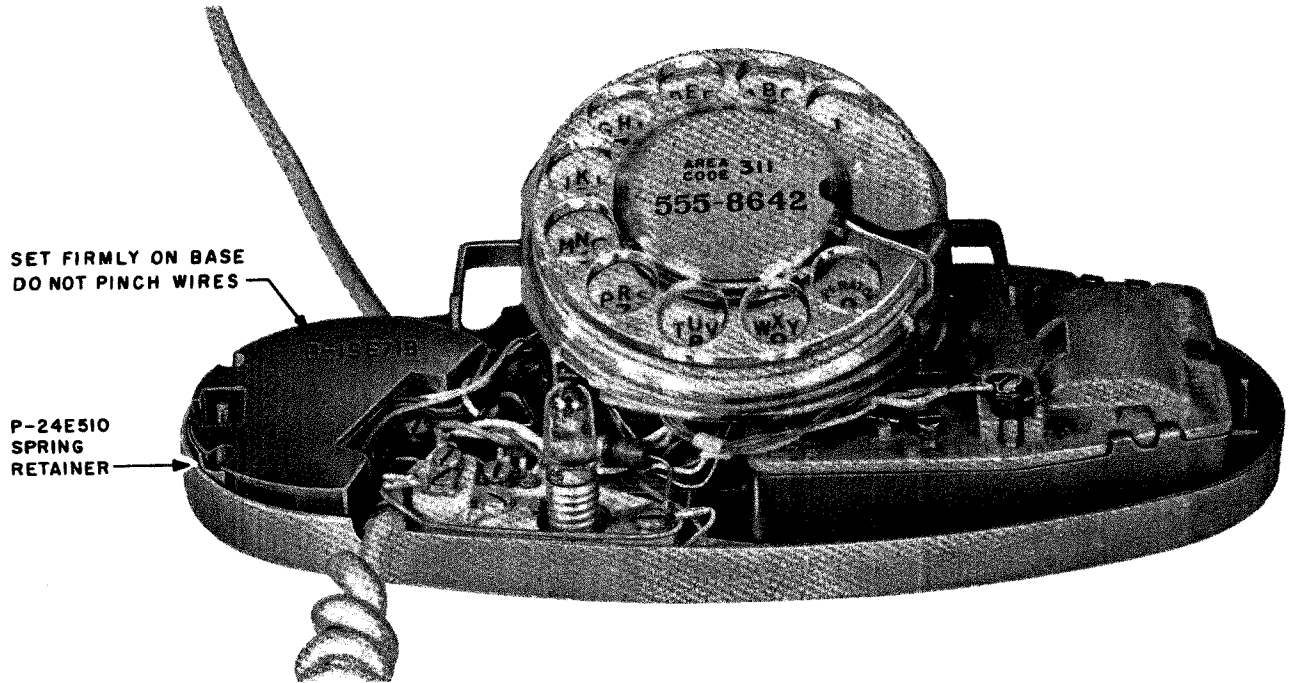

Fig. 10 – P-15E719 Weight Mounted in 701B Telephone Set
*Make sure that no wires are caught between the weight and base of set. Insert retaining spring as shown in Fig. 10.*
6. Place the tube in space below dial with dome of tube toward night-light socket and base of plastic tube bracket against dial support bracket. (See Fig. 10.)